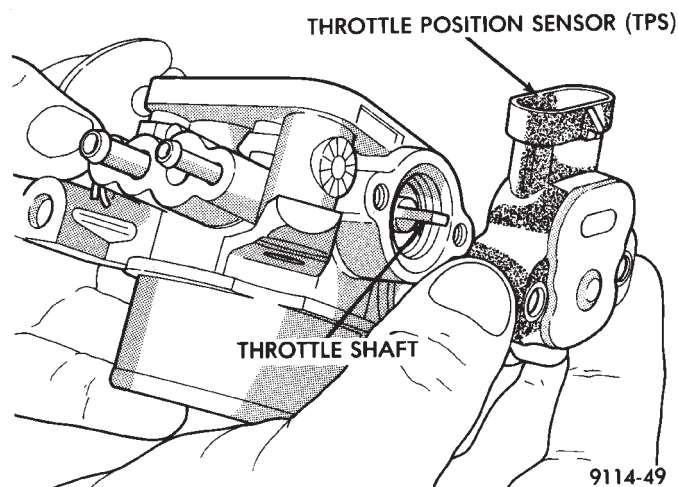

Fig. 3 Servicing Throttle Position Sensor
- (1) Disconnect the negative cable from the battery.
- (2) Disconnect harness connector from throttle position sensor (Fig. 3).
- (3) Remove throttle position sensor mounting screws.
- (4) Lift throttle position sensor off throttle shaft.